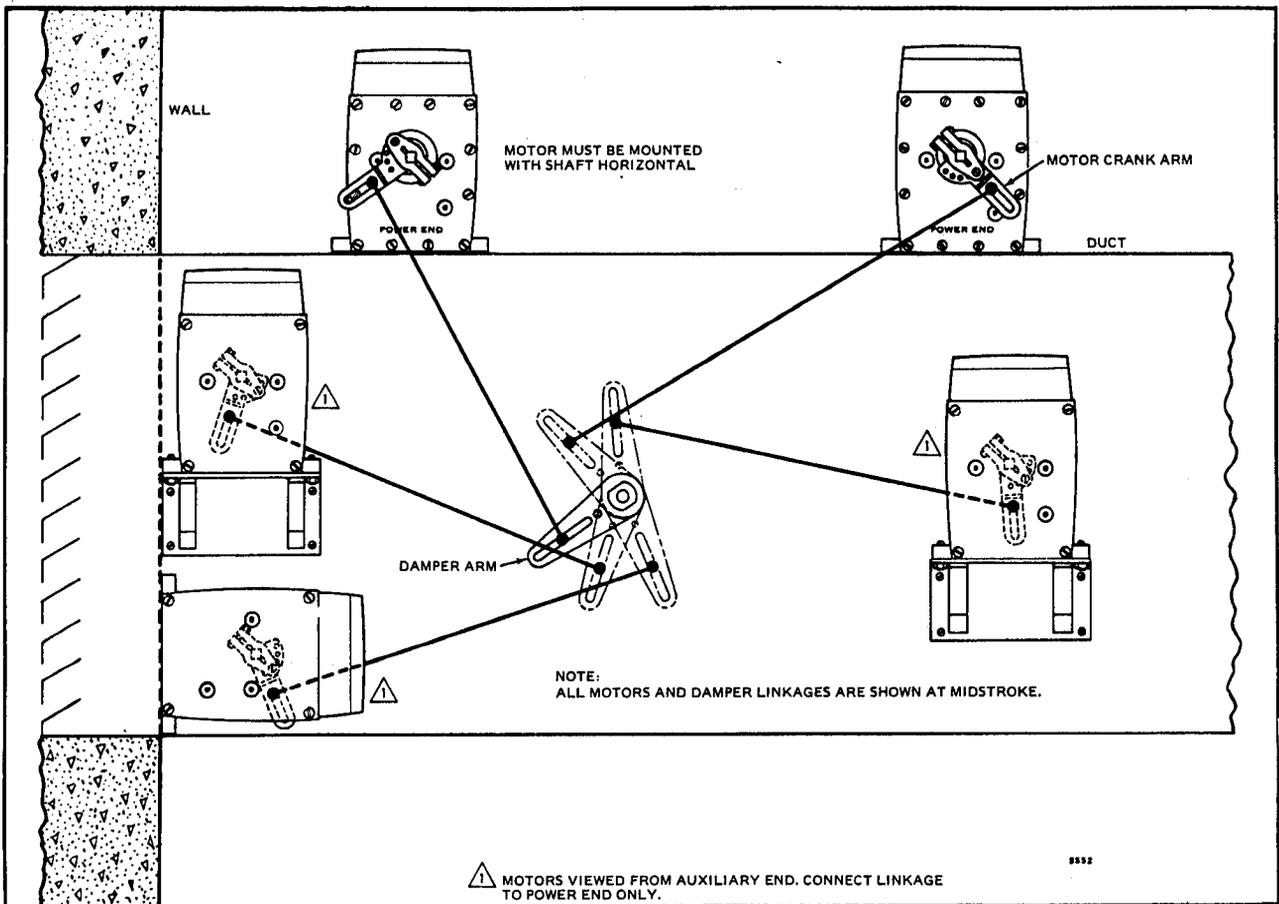

FIG. 5—MODUTROL MOTOR MUST BE MOUNTED WITH SHAFT HORIZONTAL.
5. The motor may be mounted in any position as long as the shaft remains horizontal (see Fig. 5).
The Q605A, Q605D and Q605E damper linkages are used for external motor mounting installations. Mount the motor in any position as long as the shaft is horizontal (see Fig. 5).